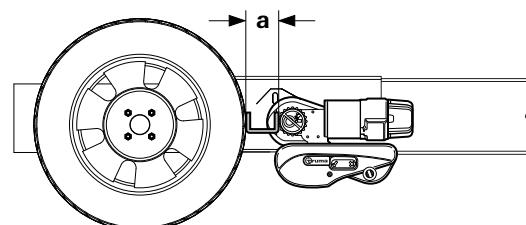

Fig. 37
- Set the correct distance (Fig. 37-a) between the tyres and drive roller using the spacer plate supplied by moving the drive units lengthways. The movable connection pipe makes it possible to adjust to the frame width. The weight of the caravan must be resting on the wheels when doing this.